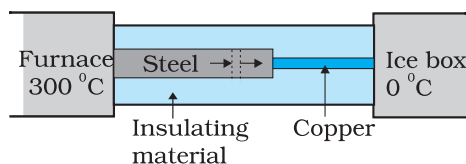

Fig. 10.15
► **Example 10.6** What is the temperature of the steel-copper junction in the steady state of the system shown in Fig. 10.15. Length of the steel rod = 15.0 cm, length of the copper rod = 10.0 cm, temperature of the furnace = 300 °C, temperature of the other end = 0 °C. The area of cross section of the steel rod is twice that of the copper rod. (Thermal conductivity of steel = $50.2 \text{ J s}^{-1} \text{m}^{-1} \text{K}^{-1}$; and of copper = $385 \text{ J s}^{-1} \text{m}^{-1} \text{K}^{-1}$).